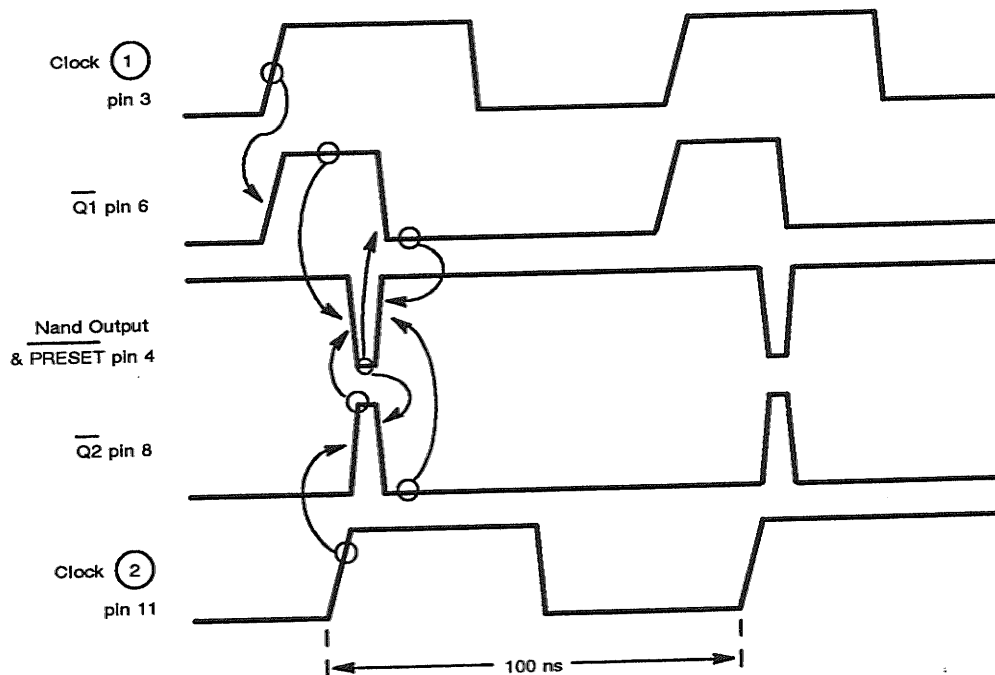

Fig. 5-18 160 MHz phase detector IC6, timing signals
95. 160 MHz loop. Check that a 160 MHz signal is present at the junction of R2/C1. A signal within the range -20 dBm to 0 dBm should be sufficient to ensure correct divider operation, a greater or lesser signal will be likely to produce a fault condition. Expected voltages of this stage and the timing sequence of signals are given below. Figure 5-18 shows idealized timing waveforms around IC6. In practice delays are only those of TTL gates and the narrower pulses will not be seen to actually reach 0 V or +5 V.